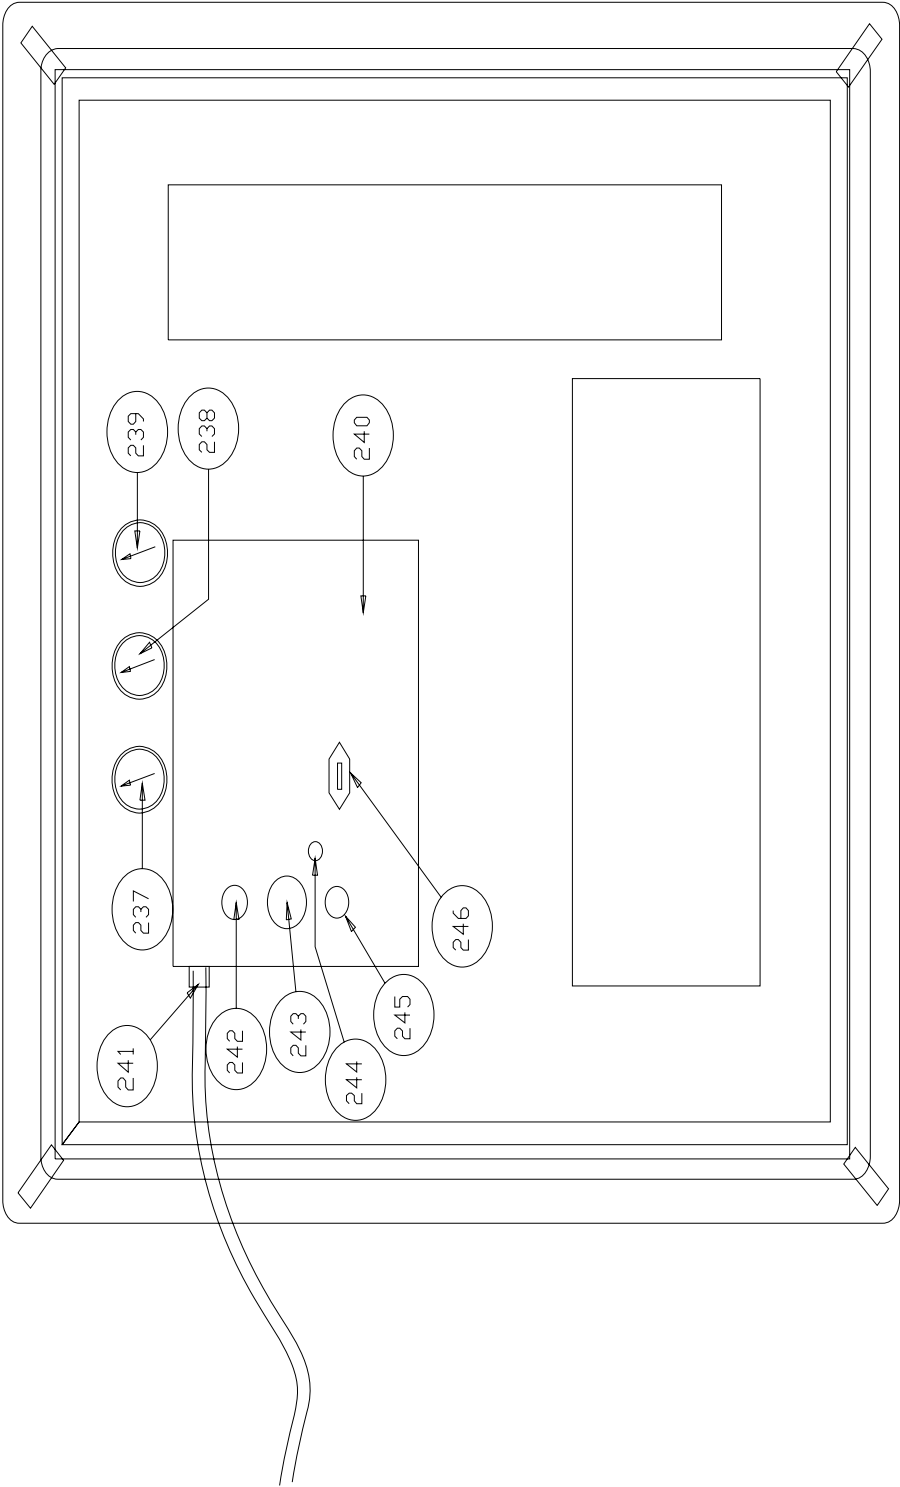

Figure 12
7.2.24 HV Booster Interior – Control Panel Side (Fig. 12)
(fig. 12)